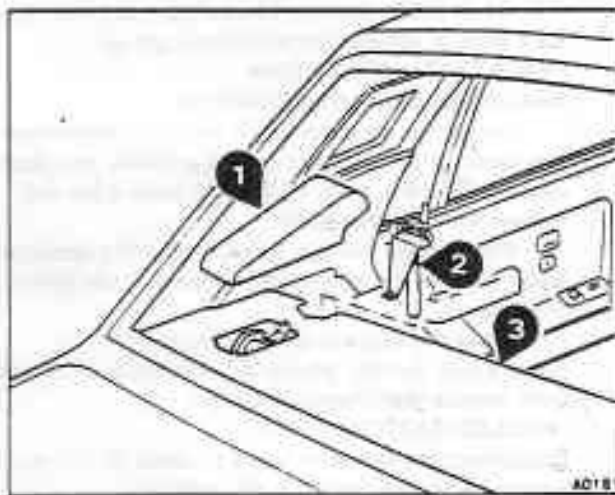
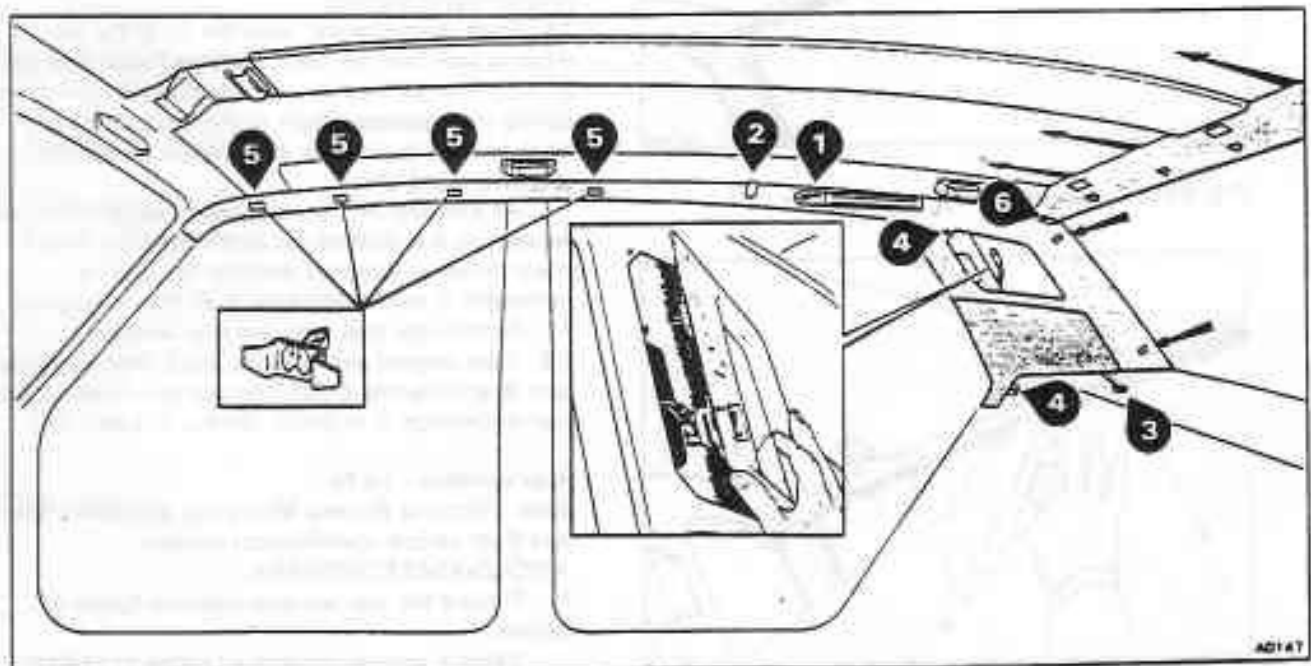

Fig. S11-1 Parcel shelf trim
Fig. S11-2 Cantrail/quarter (one-piece)
4. Unclip and remove the seat belt trim covers (see fig. S11-1, item 1).
6. Remove the seat belt anchorage bolts situated on the rear squab panel. Release the webbing from the seat belt pedestals (see fig. S11-1, item 2) and allow the bolts to retract into the reel mechanism.
7. Ease the front of the parcel shelf (item 3) slightly upwards and carefully remove.
8. Remove the companions as follows referring to figure S11-2.
9. Pull down each grab handle (see fig. S11-2, item 1); release the screws and remove the handles.
11. On cars fitted with a one-piece cantrail trim panel proceed as follows (see fig. S11-2).
Remove the screw from each end of the panel (see fig. S11-2, item 6). Then, pull the panel forward to disengage the rear retaining brackets.
6. Remove the seat belt pedestals (see fig. S11-1, item 2).